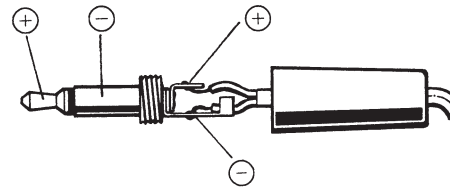
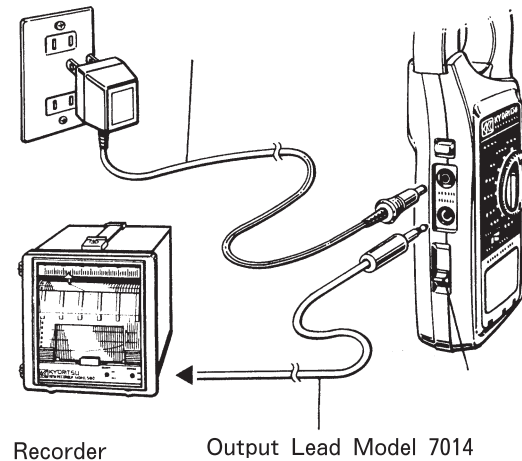

Fig.10
Fig.11
- (1) Slide down the Terminal Cover Knob to disclose the Output Terminal.
- (2) Insert into the Output Terminal the attached plug connected with a lead as per Fig.10 or optional Output Lead Model 7014. (Fig.11)
- (3) Connect the other end of the lead to equipment such as an recorder.
(see Fig.11)